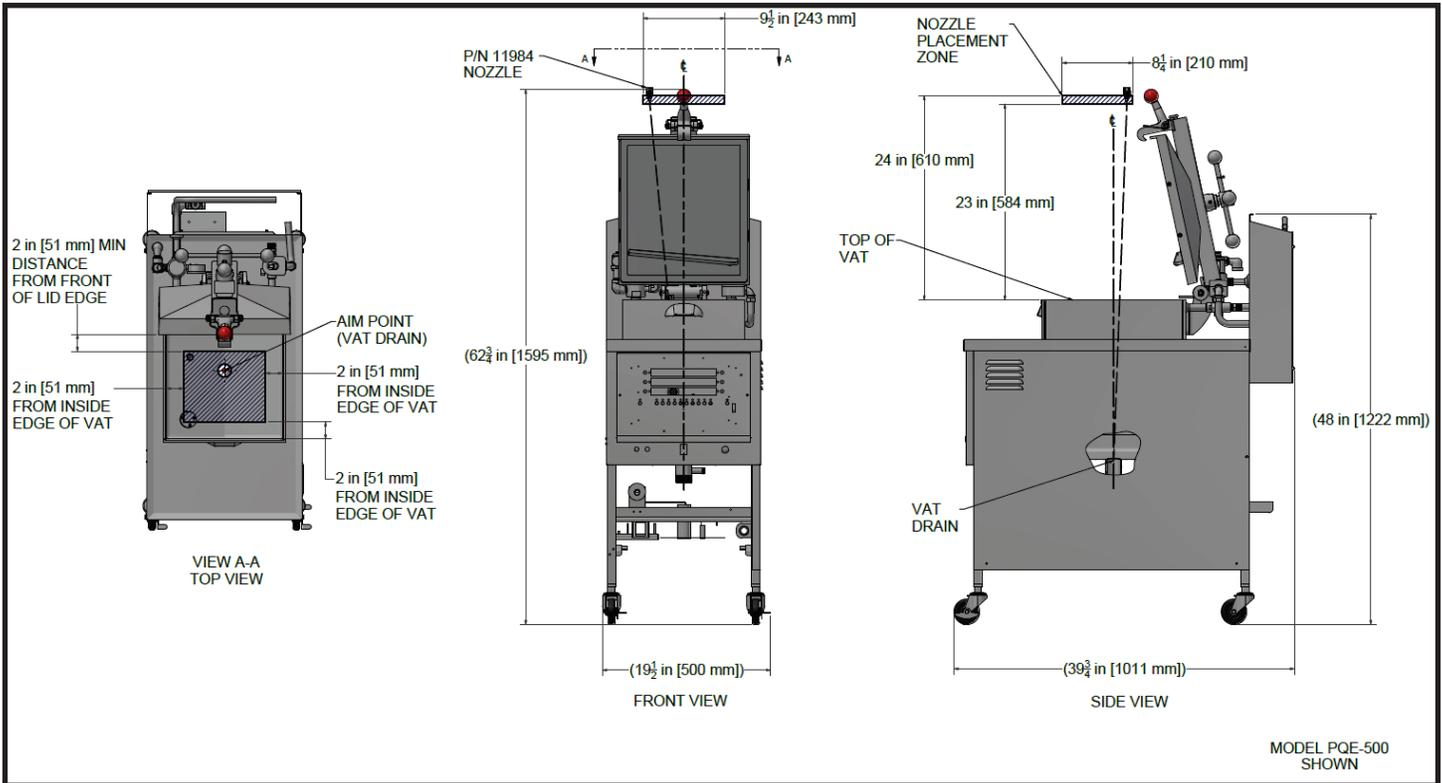

Figure 1: Nozzle Placement and Aim
**Nozzle Location:** Over fry pot opening and 2 in (51 mm) minimum distance from front of lid edge when lid open. See Figure 1 for details.